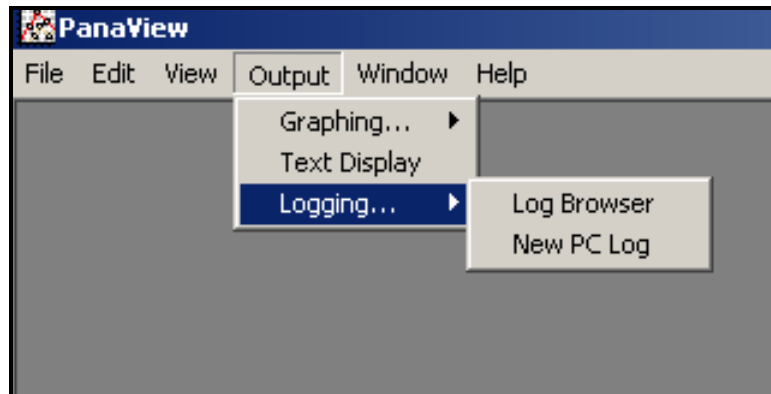

Figure 5-1: The Log Browser in the Logging Option
1. From PanaView, click on the *Logging* option in the *Output* menu. Then click on the *Log Browser* option, as shown in Figure 5-1 below.